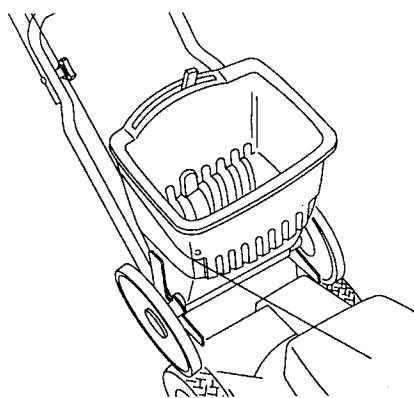

Figure 72
1. Place the spreader on your mower (Fig. 72). The wheels of the spreader must rest on the wheels of the mower. The axle support flanges must also fit between the L-shaped brackets.